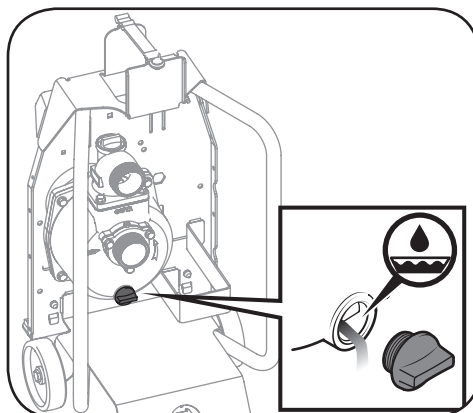

Figure 4-10
4. Empty the water from the pump's chamber by removing the water drain plug. Tip the unit forward to fully drain. See Figure 4-10.